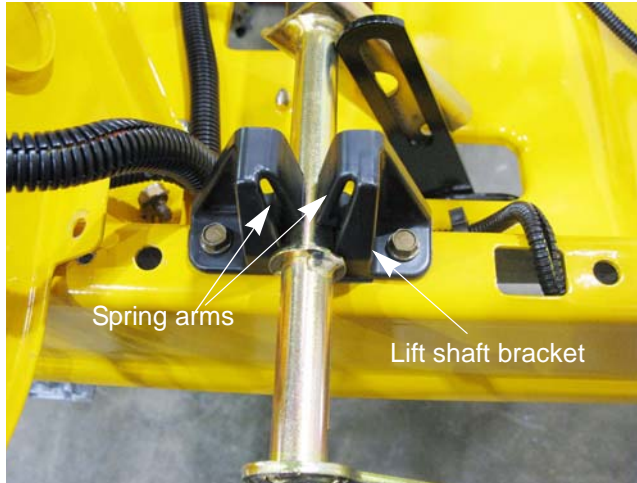

Figure 7.31
6. Remove both of the deck lift shaft brackets by removing the two screws that hold them in place using a 1/2" wrench. See Figure 7.31.